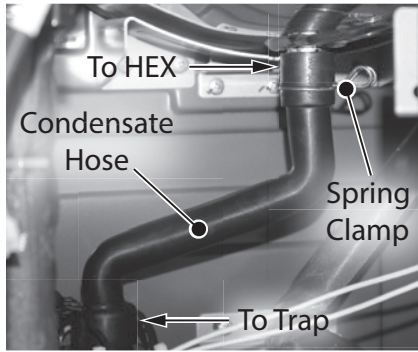

Figure 130 - Disconnect condensate hose
- 21** Disconnect the black hose from the top of the condensate trap and then from the back of the heat exchanger as shown in Figure 130. Compress the spring clamp and pull it down along with the black hose. Place hose aside in a safe place for reinstallation.